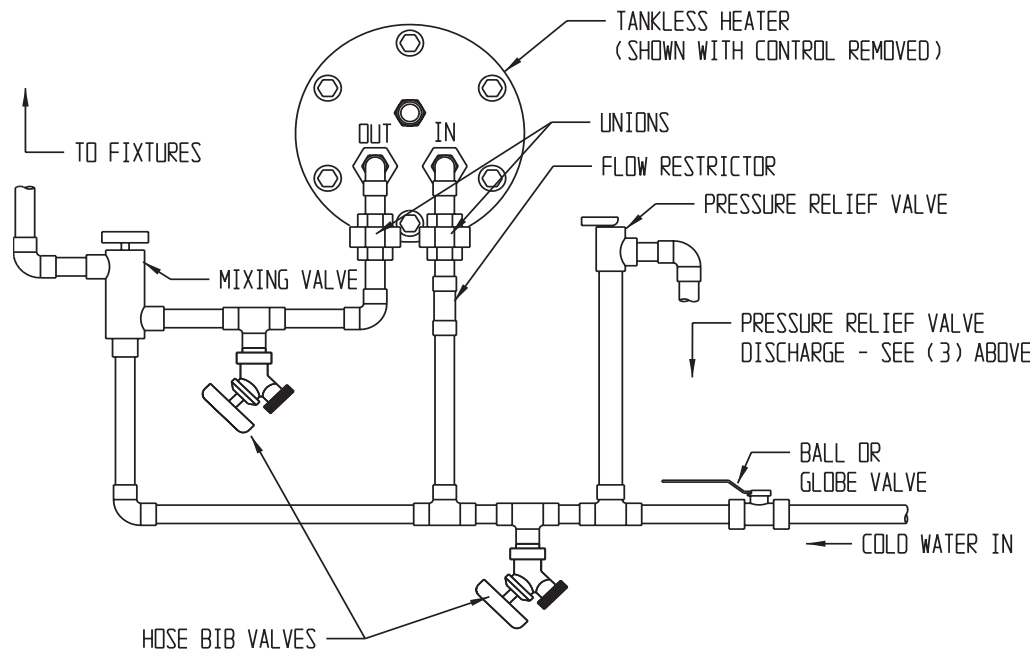

FIGURE 17: TANKLESS HEATER PIPING
If the CWI is supplied with a tankless heater, pipe the heater as shown in Figure 17. The components in this system and their functions are as follows:
- 7) Backflow Preventer (Required in Massachusetts) - If required by local codes, install a backflow preventer in the cold water connection to the tankless coil just upstream of the piping shown in Figure 17. Install in accordance with local codes and the backflow preventer's installation instructions. Also install a potable water expansion tank on the outlet side of the backflow preventer (between the backflow preventer and the piping shown in Figure 17).